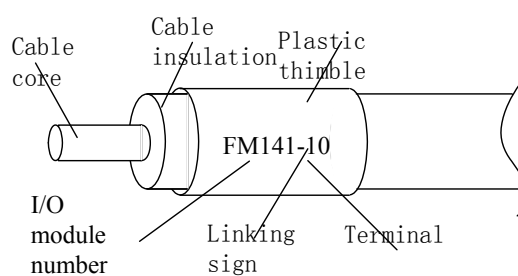

Figure 2-25 Serial Number of Signal Cable to Base Terminal
- Step 4: Serial number is put up to the signal cable end close to the base (Figure 2-25). Select plastic thimble according to the size and color of the signal cable, and set the plastic thimble at the signal cable (The serial number means “The signal connects with terminal 10 of FM141 module”).